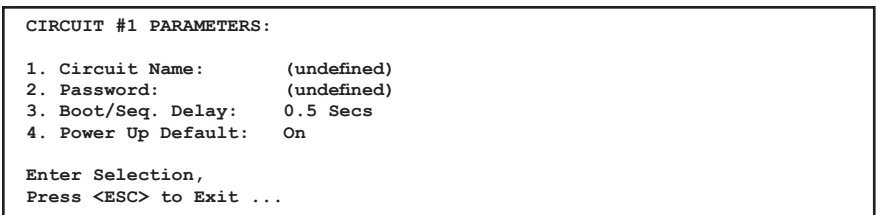

Figure 5.8: Circuit Parameters Menu - Text Interface (Circuit 1 Shown)
- **Text Interface:** Type `/P n` and then press **[Enter]** (Where `n` is the number or name of the circuit you wish to configure.) The Circuit Parameters Menu will be displayed as shown in Figure 5.8.